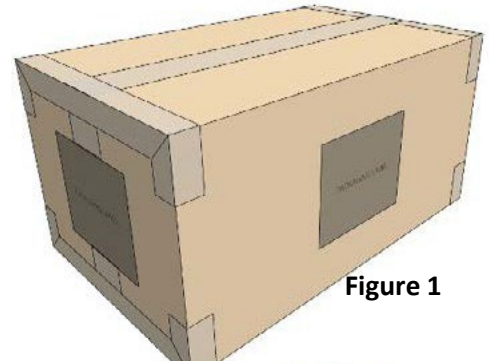

Figure 1
- 1. All RSC (Regular Slotted Container) master cartons should be taped using the H-Taping Method (reference Figure 1 at right)